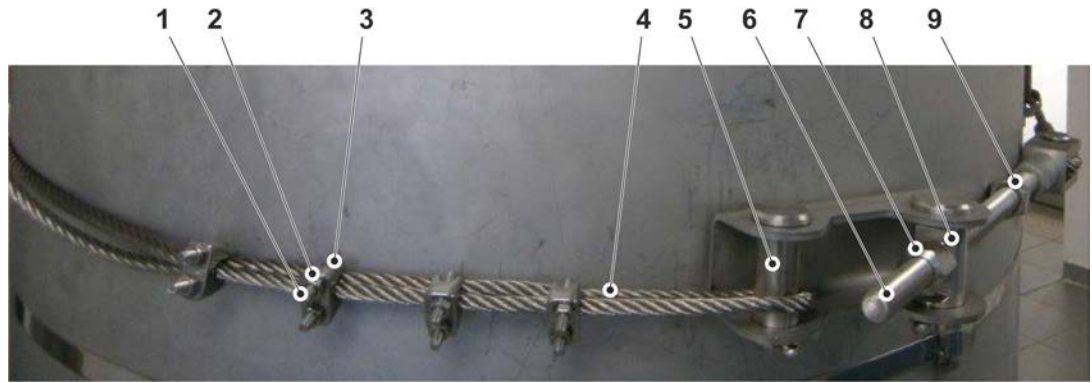

Fig. 10-75 Tensioning the stainless steel cable
12. Close the **stainless steel cable** (Fig. 10-75 Pos. 4) with the associated tensioning system:
One side of the stainless steel cable is connected to the tension lock ex works, the other side is open. Turn the lock nut (Fig. 10-75 Pos. 7) on the tension lock to the end of the threaded rod (Fig. 10-75 Pos. 6). Place the open end of the stainless steel cable around the free bolt (Fig. 10-75 Pos. 5) on the tension lock and place the stainless steel cable on the pipe. Make sure that the second lock nut (Fig. 10-75 Pos. 9) does not touch the pipe (if necessary, turn it in the direction of the bolt on the tension lock). To secure the stainless steel cable, the four cable clamps supplied must be fastened at a distance of approx. 30 mm from each other. To do this, place the U-shaped threaded rod (Fig. 10-75 Pos. 3) around the stainless steel cable (double in this case), place the holder (Fig. 10-75 Pos. 2) on top and firmly connect the two parts by tightening the nuts (Fig. 10-75 Pos. 1).
Screw in the lock nut (Fig. 10-75 Pos. 7) on the threaded rod (Fig. 10-75 Pos. 6) until it contacts the bolt (Fig. 10-75 Pos. 8) on the tension lock. Be careful that the tension of the stainless steel cable does not become too tight and accidentally deforms the mounting rail.
Place the second lock nut (Fig. 10-75 Pos. 9) on the bolt from the other side. Position the protruding stainless steel cable in such a way that there is no risk of injury.